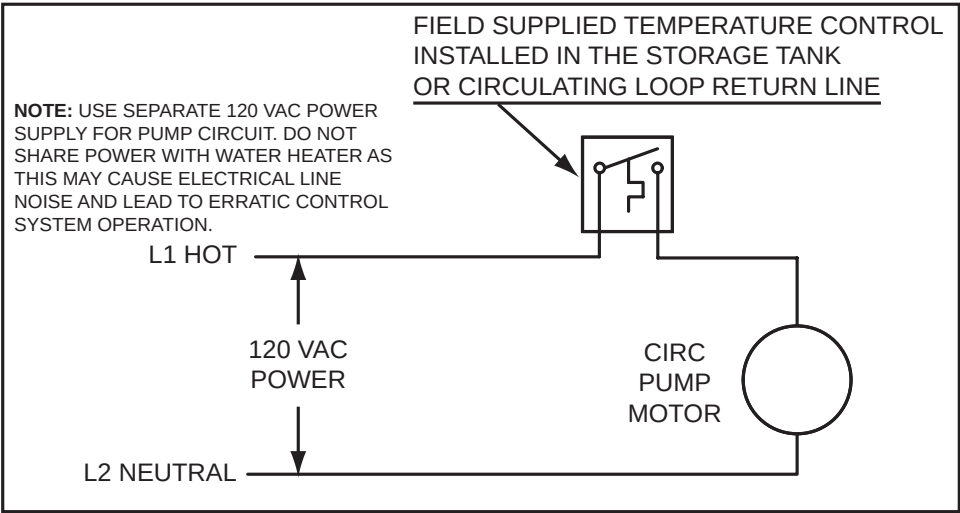
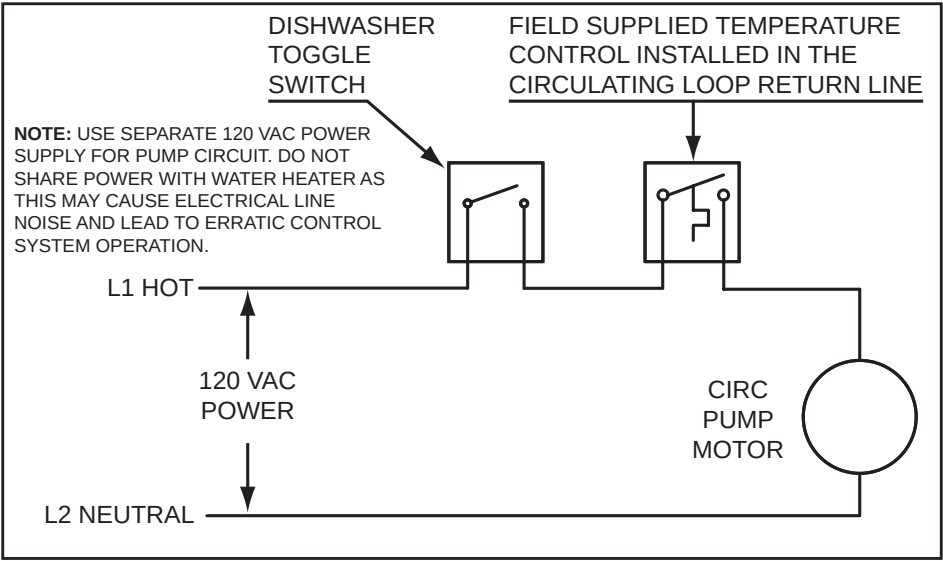

Figure 68. Circulating Pump Wiring Diagram - Storage Tank or Building Recirculation
Figure 69. Circulating Pump Wiring Diagram - Dishwasher Loop Toggle Switch
6. If a pump is being installed between a water heater and storage tank or on a building recirculation loop wire according to *Figure 68* (page 69).
7. If a pump is being installed in a recirculation loop between the water heater and a commercial dishwasher wire according to *Figure 68* or *Figure 69* (page 69).
or on a building recirculation loop wire according to *Figure 68* (page 69).